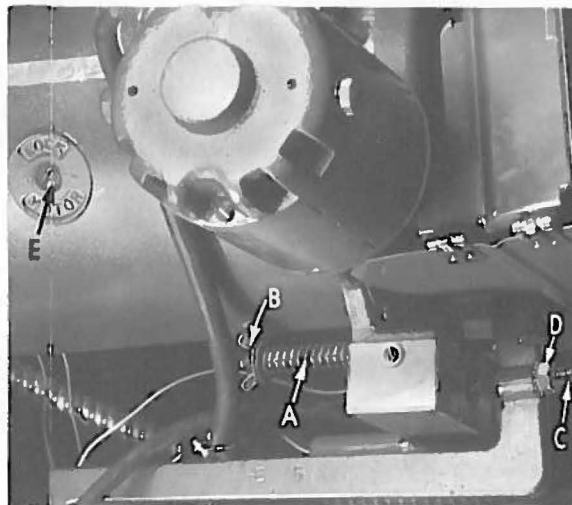

Fig. 35
- (b) Adjust clutch arm spring (A, Fig. 35) so that treadle will return to stop (wing nut washer (B) is to be approximately 1/2 inch from end of stud).
- (c) Close treadline switch and loosen clutch lever switch adjusting screw (C), until there is no contact between it and the microswitch. Then tighten screw until needle positions up. Tighten nut (D) to maintain setting.
- (b) Adjust clutch so that clutch arm has approximately 1/16 to 1/8 inch travel before clutch is engaged. Loosen lock screw (E, Fig. 35) (where it says "Lock Motor") just enough to unlock it, which is approximately one full turn. Adjust screw located near the top on right end of motor, until clutch is engaged as described above. Tighten lock screw (E).